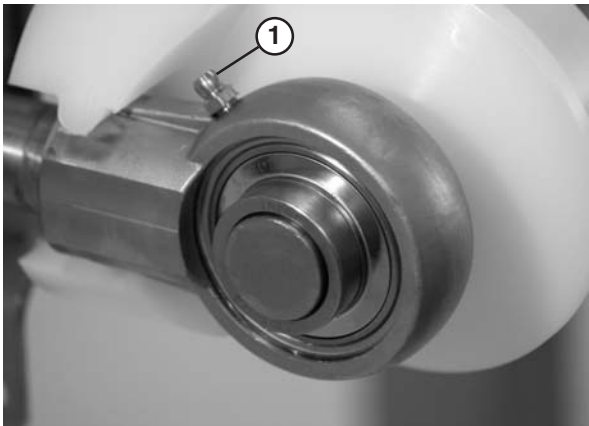

Figure 42
1. Add grease to the bearing using the zerk fitting (Figure 42, item 1) on the exterior of the bearing shaft assembly.